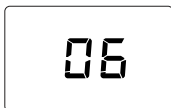

fig. 4- Switching on / Software version
- During the first 5 seconds the display shows the card software version (fig. 4).